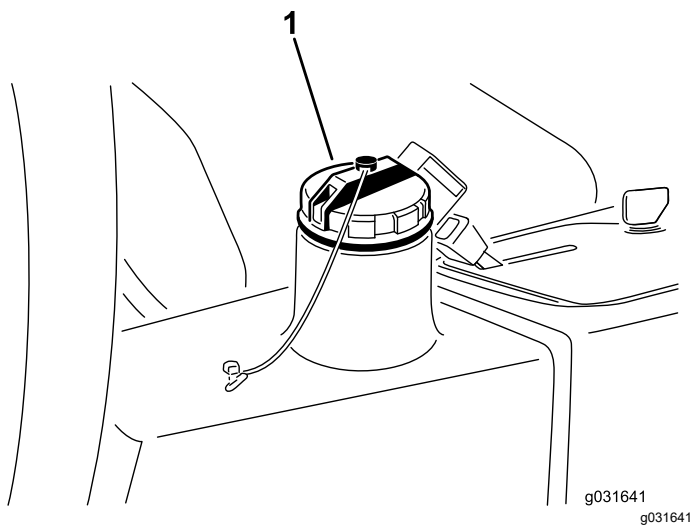

Figure 66
4. Fill the reservoir (Figure 66) with approximately 13.2 L (3.5 US gallons) of hydraulic fluid; refer to Hydraulic Fluid Specifications (page 54) and Checking the Hydraulic Fluid Level (page 55).